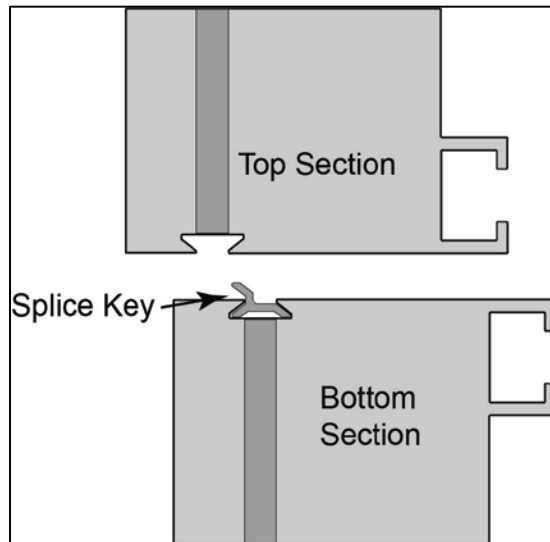

Figure 11: Lowering Top Section
1. Ensure the splice key is in the splice channel and the alignment brackets are installed on the bottom display section. Refer to **Figure 11**.